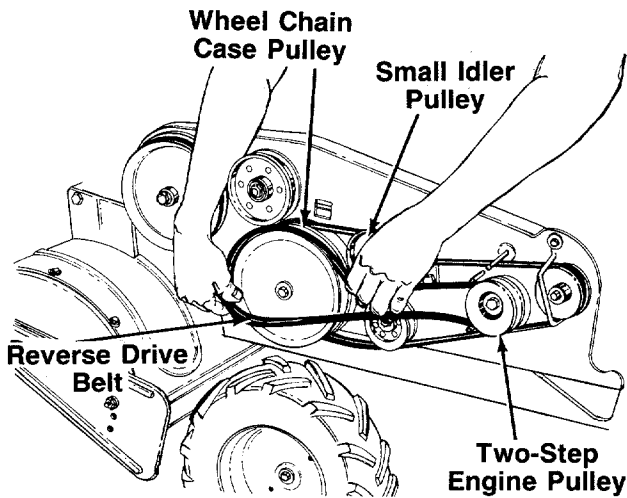

FIGURE 23.
3. To remove the reverse drive belt, lift up on small idler pulley as shown in figure 23. Slip belt off outside sheave of wheel chain case pulley. Then remove belt from two-step engine pulley.